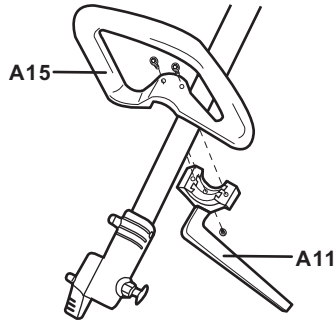

Fig. 1
3. Place the handle (A15) onto the shaft from the top and secure it with the longer screws. Tighten them with the hex key (E5). (See Fig. 1)